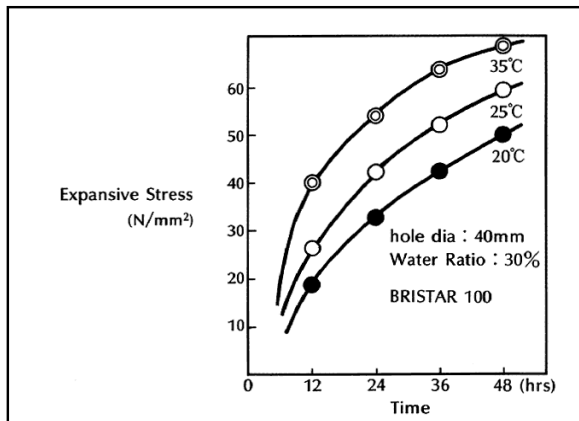
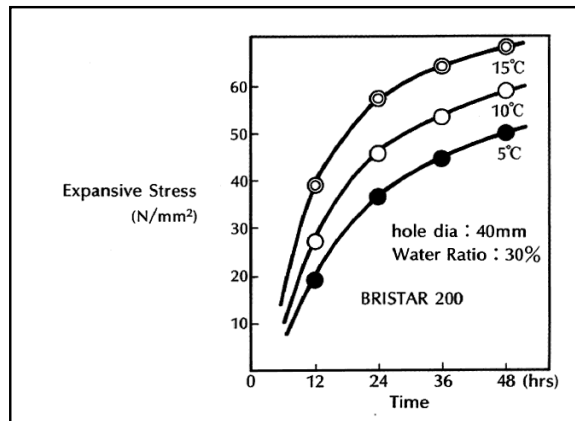

Fig.1: Changes in the expansive stress of BRISTAR100
Fig.2: Changes in the expansive stress of BRISTAR200
1)The expansive stress increases more than 30 N/mm2(Fig.1 & Fig.2). Generally, the compressive fracture stress of rock is 100 to 200 N/mm2 and that of concrete is 15 to 50 N/mm2. However, the tensile fracture stress is very small, for instance, it ranges from 4 to 7 N/mm2 in rock and 1.5 to 3 N/mm2 in concrete.